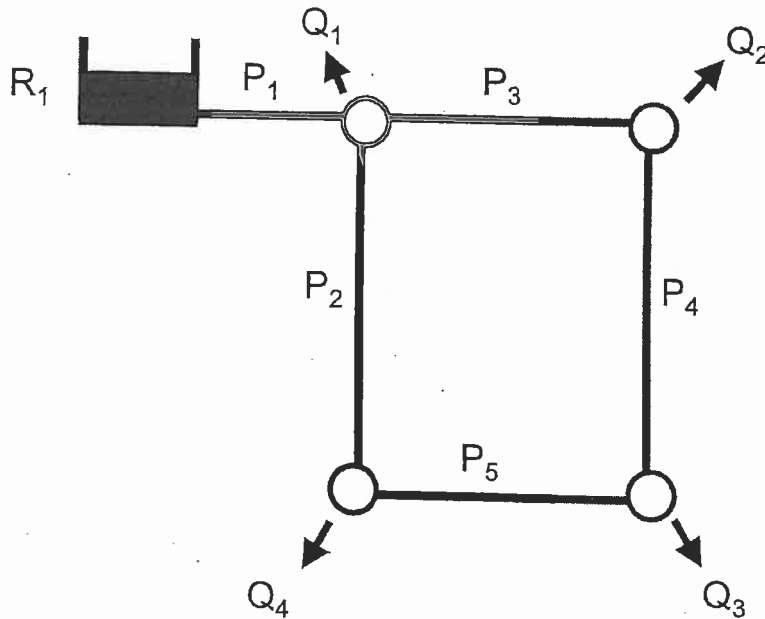

Figure 3. Water network with fixed-head reservoir.
3. The 5-pipe water distribution network shown in Figure 3 has a fixed-head reservoir (R_1) with water level of 70 m. The pipe (P_1) that connects the fixed-head reservoir to the rest of the network is 100 m in length, and has an inner diameter of 610 mm and a 'C' factor of 140. Pipes 2 to 5 have the following parameters: length = 500 m, Hazen-Williams 'C' factor = 130, and inner diameter = 203 mm. Node 1 is at elevation 5 m, Node 2 at elevation 10 m, Node 3 at elevation 25 m and Node 4 at elevation 15 m. Demand at Node 1 is $Q_1 = 50$ L/s, demand at Node 2 is $Q_2 = 23$ L/s, demand at Node 3 is $Q_3 = 18$ L/s, and demand at Node 4 is $Q_4 = 17$ L/s.